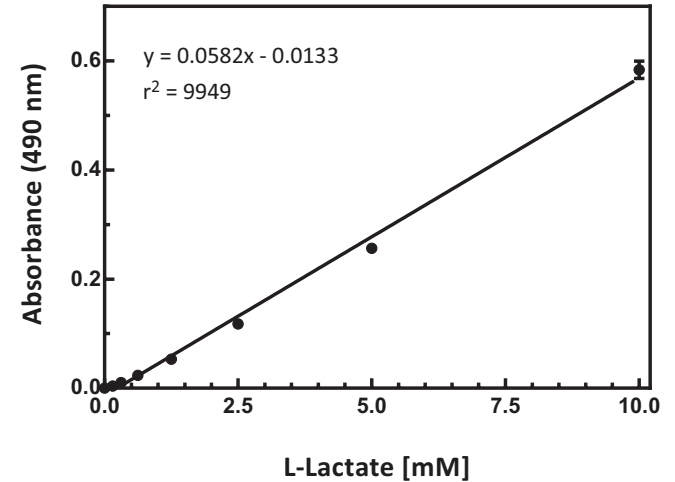

Figure 3. L-Lactate Standard curve
3. Plot the corrected absorbance values (from step 2 above) of each standard as a function of the final concentration of lactate. See Figure 3, on page 13, for a typical standard curve.